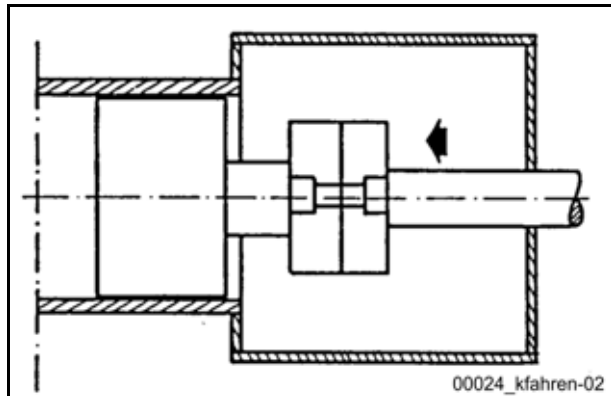

Fig. 331 Retract pumping piston
- Move the pumping piston into the cylinder far enough that the screw connection can still be loosened (**Fig. 331**).